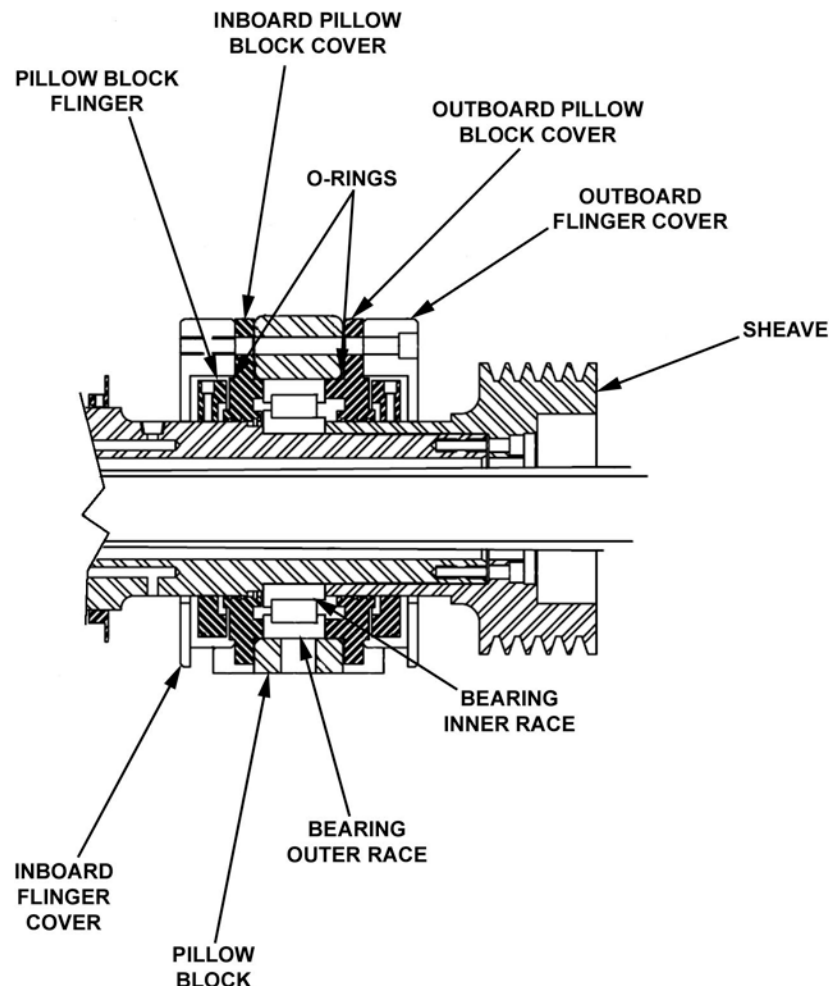

Figure 5-11 Solid End Main Bearing Installation
1. Remove screws securing inboard and outboard flinger covers to pillow block (Figure 5-11), and lift and remove inboard flinger cover.